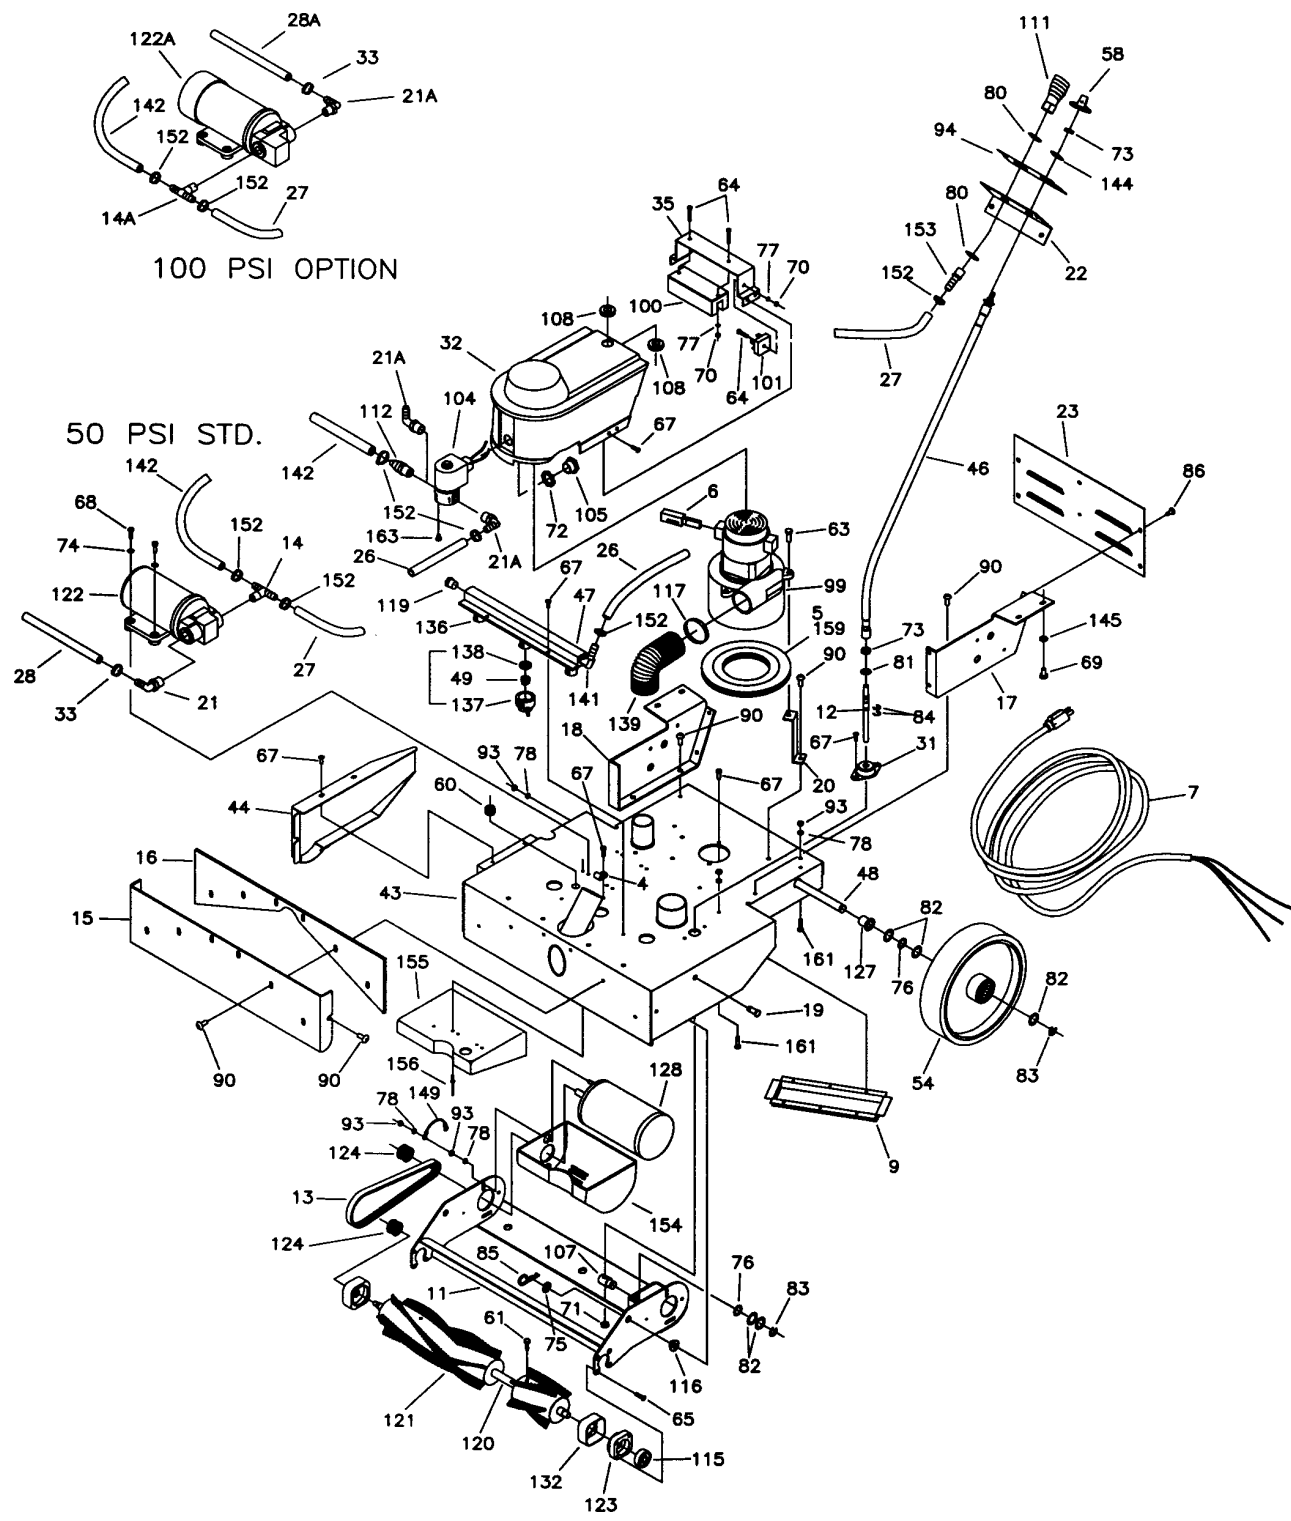

**FIG. 3**
3. Vacuum Lid Assembly, page 7, should be properly seated on Recovery Tank, item 42, for proper vacuum recover. See figure 3 for hose hookup.